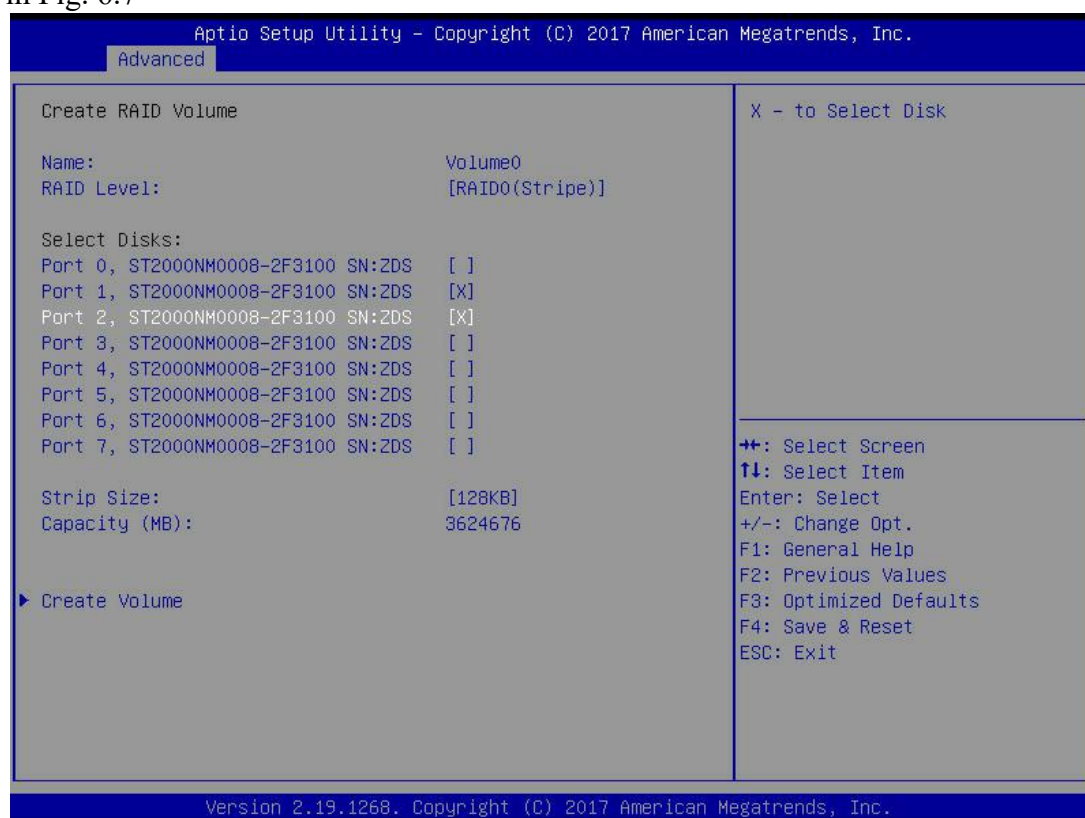

Fig. 6.7
- d) Select Disks: press the spacebar to select the disks that need to participate in configuring RAID. As shown in Fig. 6.7